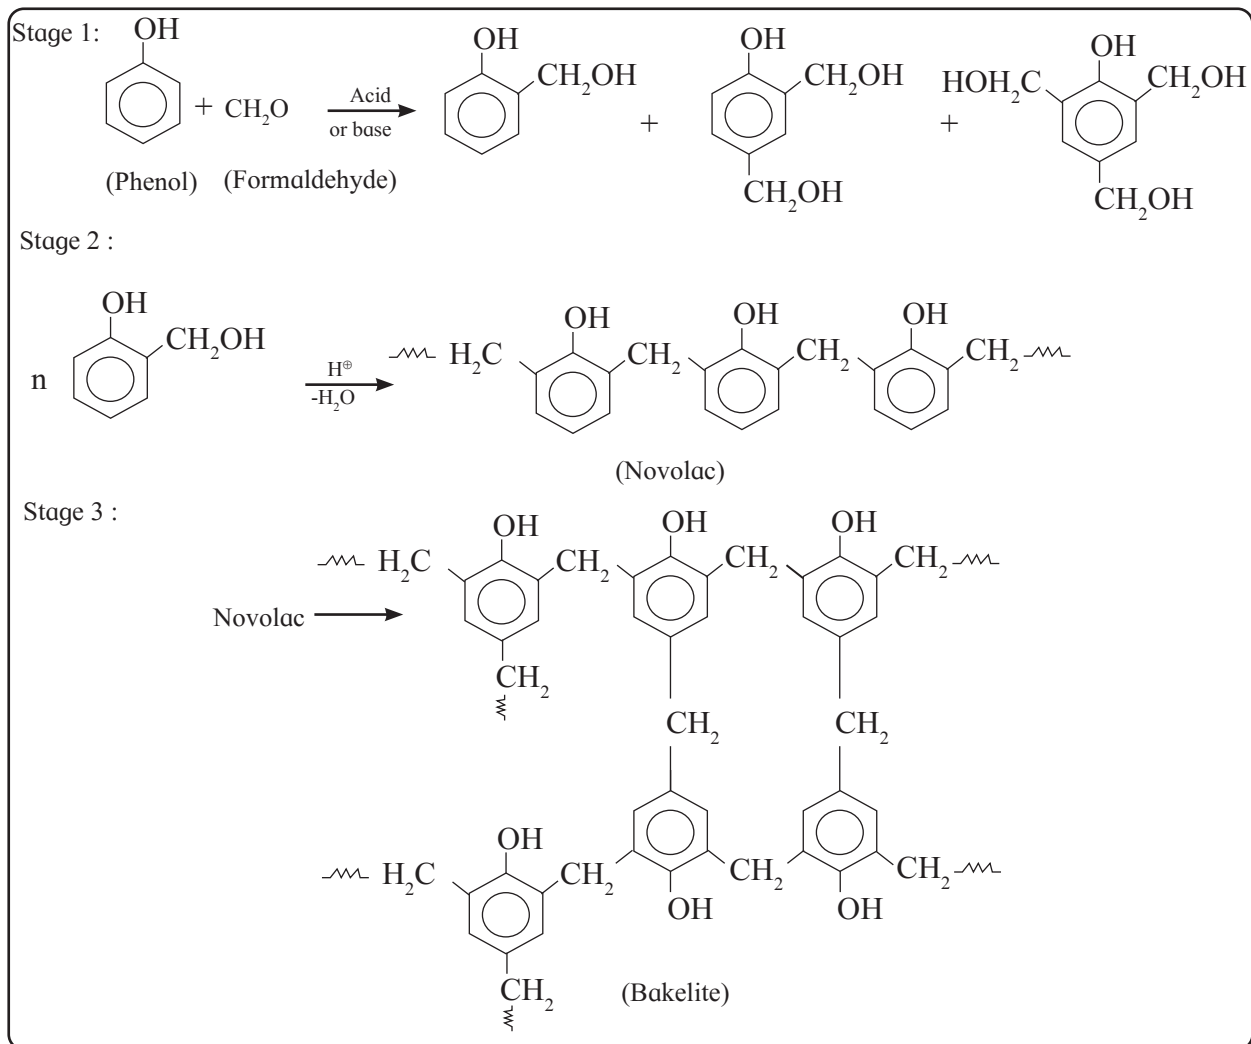

Fig. 15.3 Preparation of Bakelite
a. Bakelite : Bakelite, the thermosetting polymer obtained from reaction of phenol and formaldehyde is the oldest synthetic polymer. Phenol and formaldehyde react in presence of acid or base catalyst to form thermosetting/ moulding powder (novolac) in two stages. In the third stage, various articles are shaped from novolac by putting it in appropriate moulds and heating at high temperature (138°C to 176°C) and at high pressure. The reactions involved are represented in the Fig. 15.3.